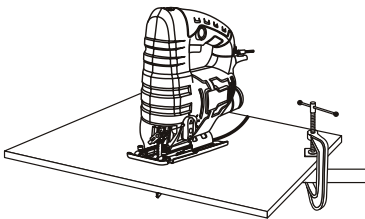

Fig. 11
3. Rest the front of the jigsaw base on the workpiece and align cutting edge of the blade with the cutting line on your workpiece (Fig. 11). Make sure the power cord is out of your way and not in the path the blade will follow.